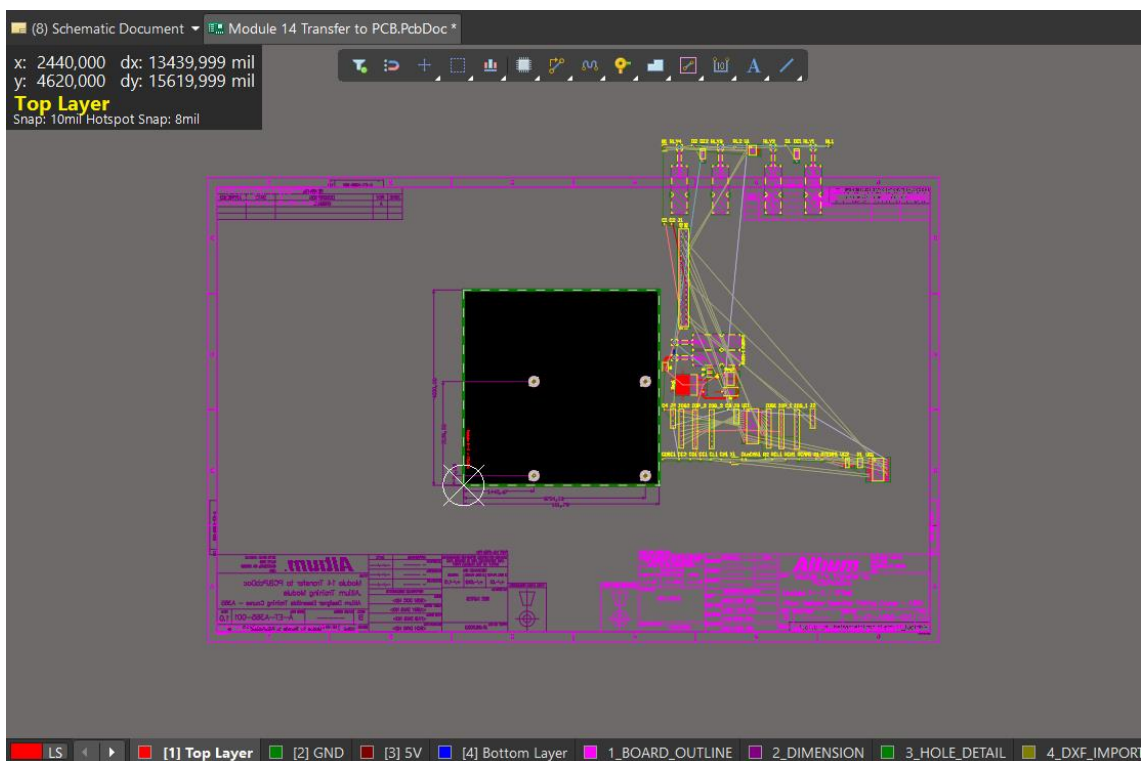

Figure 4. PCB after initial Assigning Differential Pair
18. After the ECO is executed the components and unrouted connections can be seen on the right side of the PCB, Figure 4.